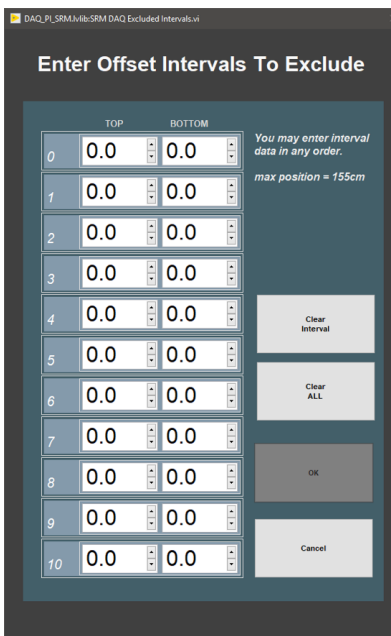

Figure 43- Exclude Intervals Window
- 1) Click **Exclude Intervals** to open the Exclude Intervals window (**Figure 43**).